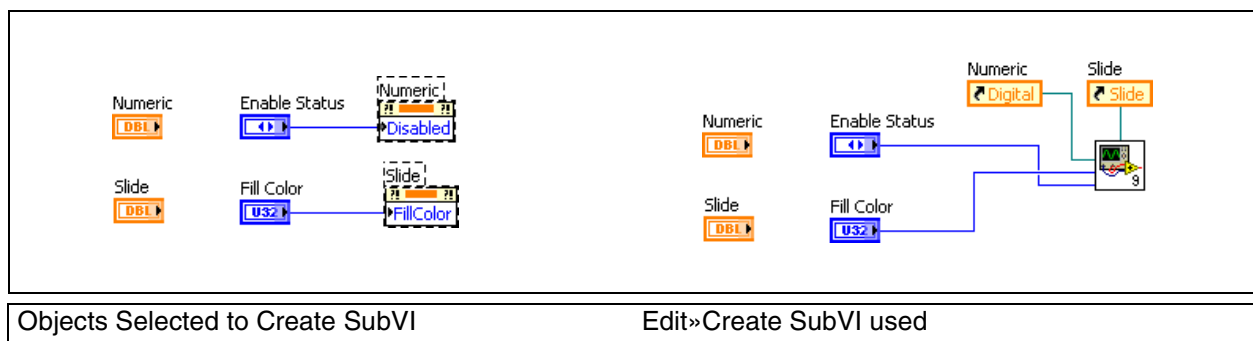

Figure 5-5. Using **Edit>Create SubVI** to Create Control References
As shown in Figure 5-5, the simplest way to create explicitly linked Property Nodes is to complete the following steps:
2. Select the portion of the block diagram that is in the subVI, as shown in the first part of Figure 5-5.
4. Customize and save the subVI. As you can see in the second part of Figure 5-5, the subVI uses the default icon.